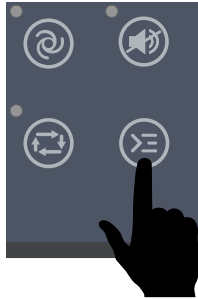

Figure 143. Shortcut Menu Button
1. Press the **Shortcut Menu button** (Figure 143) on the digital controller.
4. Press the **Shortcut Menu button** (Figure 143) on the digital controller.